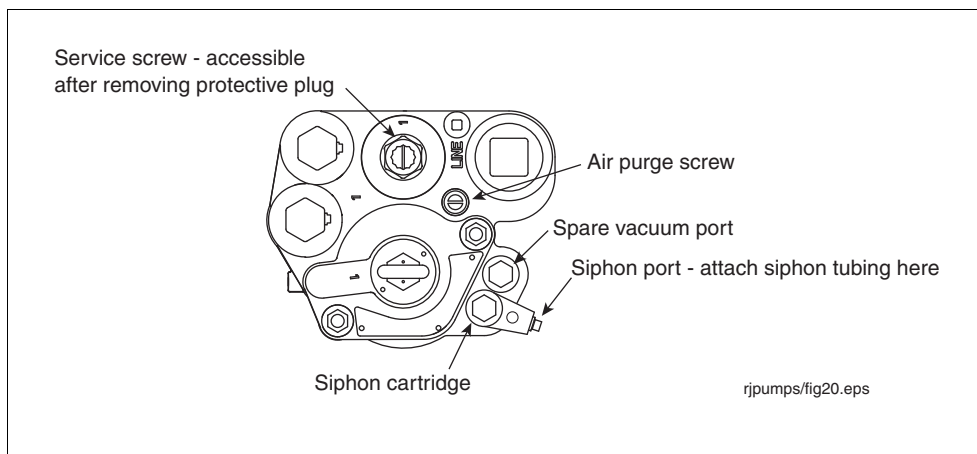

Figure 29. Siphon Ports
2. Remove and save the protective plug over the service screw and turn the screw clockwise (see Figure 29). As the screw approaches its bottom position, you will hear the system depressurizing. Continue turning the screw until it can go no further. When the screw is all the way down, backoff the screw 4 turns to lift the check valve and let the fuel drain out of the manifold's hydraulic cavities.
3. Remove one of the two siphon port plugs from the manifold (see Figure 29).
9. Turn the air purge screw 2 - 3 turns counterclockwise (see Figure 29).